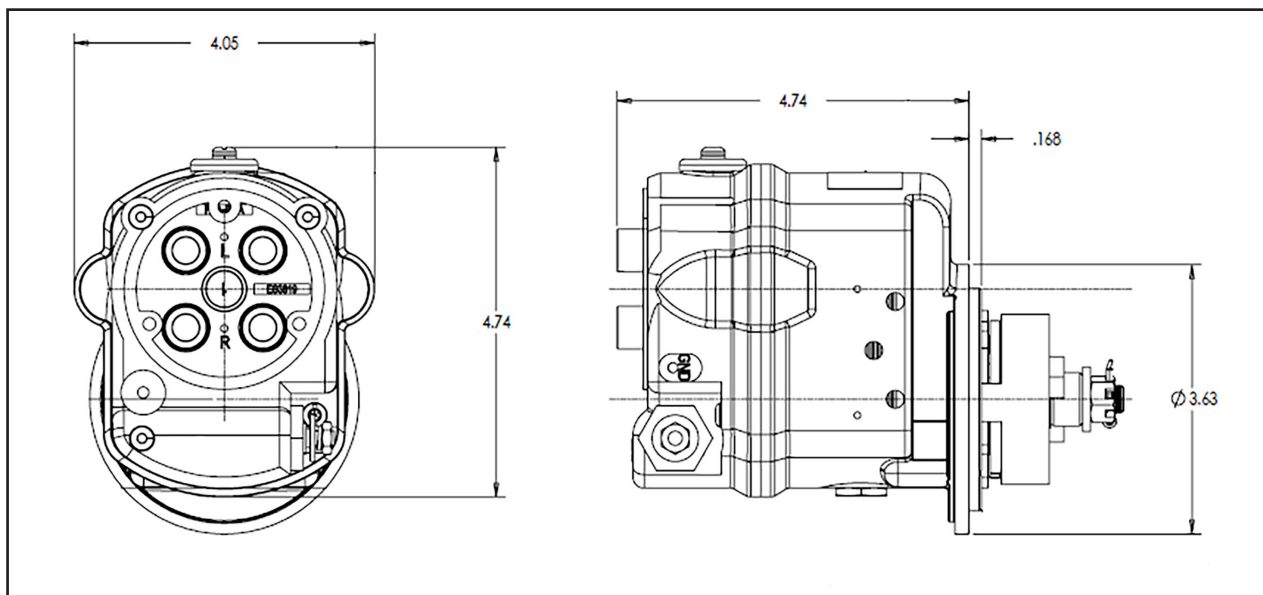

Figure 2.1 – Typical ES4300 Dimensions
- (1) The basic dimensions of each magneto are shown in Fig. 2.1 thru 2.11. Dimensions are for reference only.